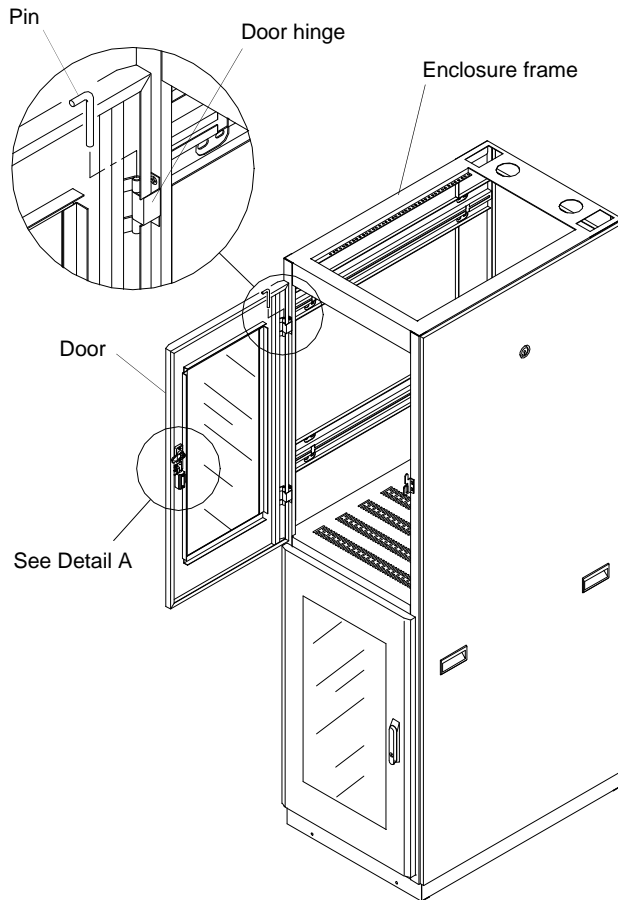

Figure 8a
1. To remove the door from the enclosure, remove the pins from the top and bottom hinges. See figures 8a and 8b.